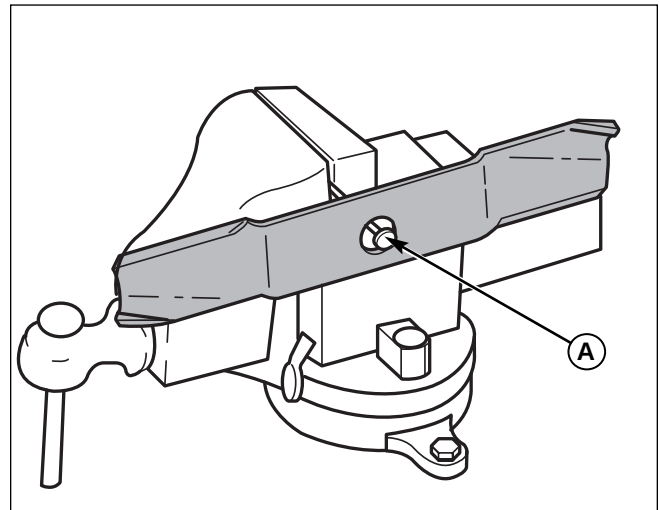

Figure 28. Balancing the Mower Blade
2. See Figure 28. Put the mower blade on a nail in a vise and turn the mower blade to the horizontal position.